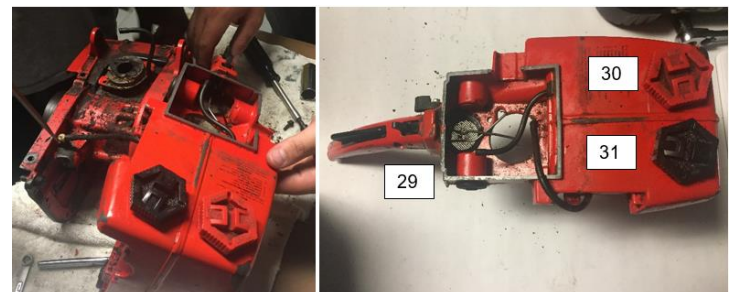

Figure 16: Fuel Tank and Throttle Removal
Step 12: Use a Flathead Screwdriver as leverage to remove the Fuel Tank and Throttle (29) and manually unscrew the Fuel Cap (30) and the Bar Oil Cap (31) and remove them from the Fuel Tank and Throttle. (Figure 16)